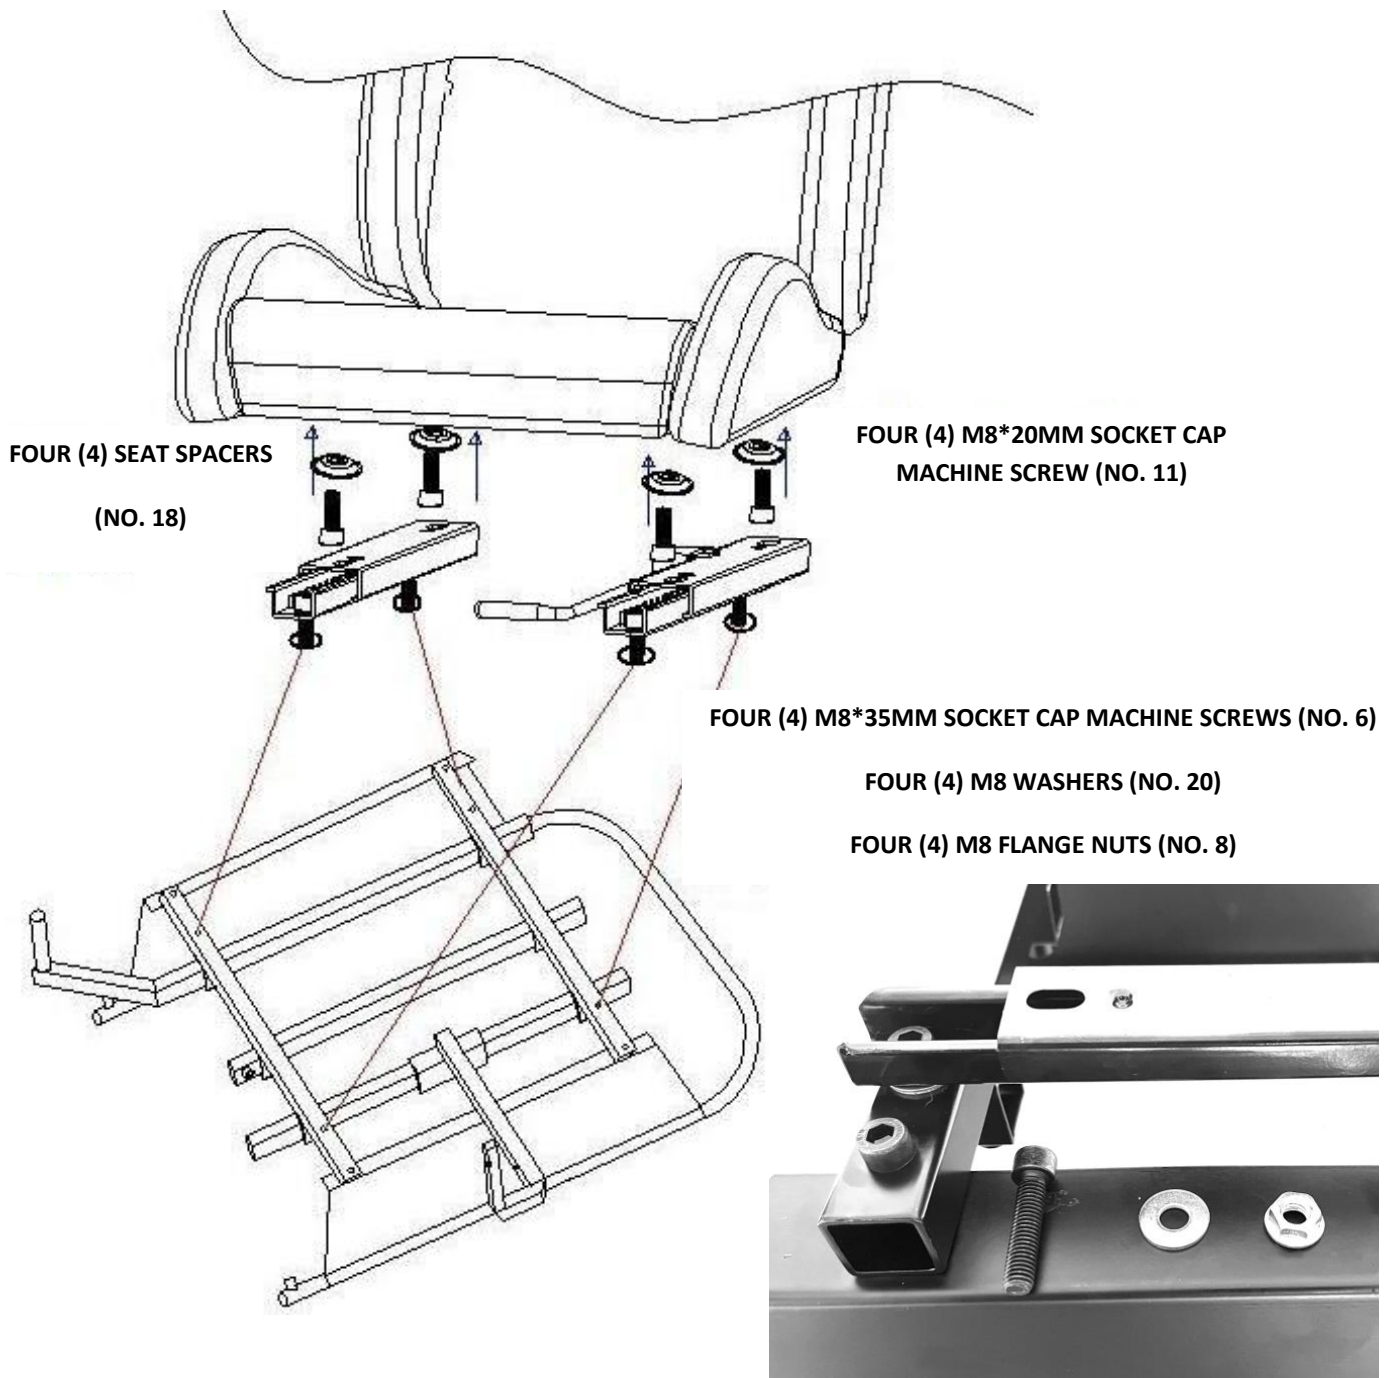

FIGURE 8A: ATTACHING THE SEAT SLIDERS TO SEAT BASE
Attach the two seat sliders to the seat base using four (4) M8*35mm Socket Cap Machine Screws (No. 6), and four (4) M8 Flange Nuts (No. 8) as shown in **FIGURE 8A**. Remember to place four (4) M8 silver-colored washers (No. 20) between the bottom of sliders and top of the seat support brackets. This will ensure that the left and the right-side mounts have adequate clearance for forward and aft movement. **HINT: You can move the sliders to forward/aft position to provide access to slider mounting holes. Note the adjustment slider handle location and lift the handle UP to allow movement.**